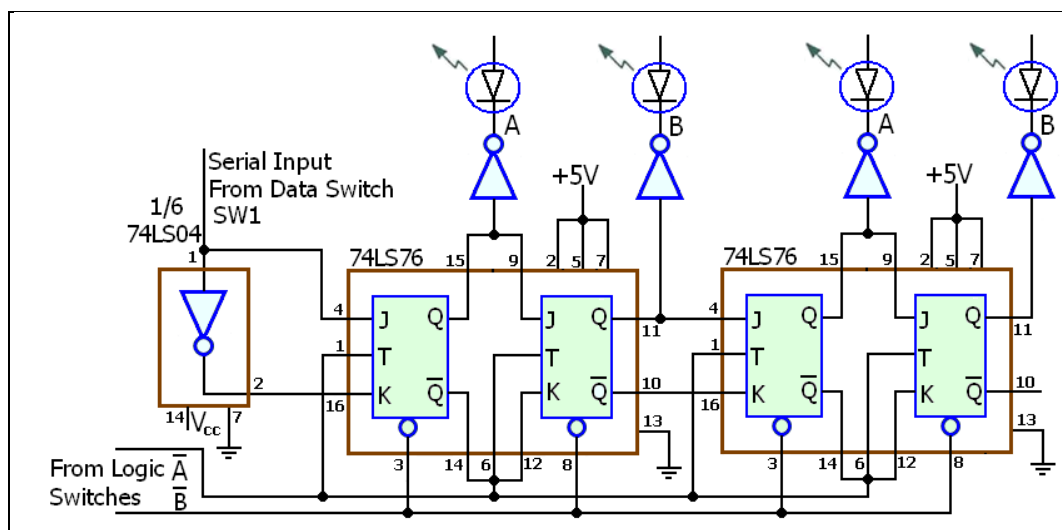

Fig. 2-1 Shift Register Circuit
1. Construct the four bit shift register circuit shown in Fig. 2-1. You will use type 74LS76 dual JK flip-flops. Shift pulses for the circuit will be derived from A-logic switch. Logic switch B is connected to reset the shift register via the asynchronous clear inputs on the flip-flops. The serial input to the shift register is fed from data switch (SW1). Note that one of the inverters in a 74LS04 IC is used to make the JK inputs of the first complementary flip/flop. The shift register outputs will be monitored on the LED indicators. Don't forget to connect +5 volts and ground to each IC.